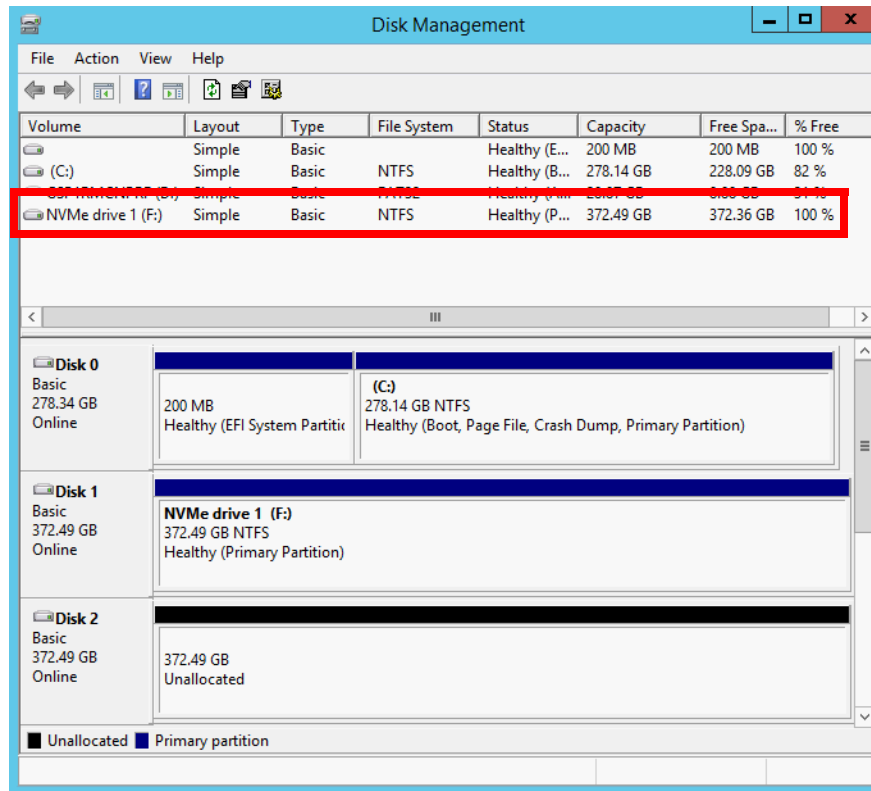

Figure 5-56 New NVMe volume
9. After the New Simple Volume wizard completes, you can see the new volume NVMe drive 1 (F:) by using the Disk Management tool, as shown in Figure 5-56.